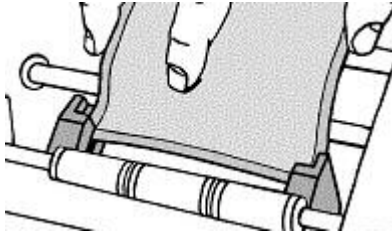

Figure 2-8. Advancing tape into guides.
**Step 7:** Advance the tape only halfway through the guides, as shown in the close-up in Figure 2-8 below: